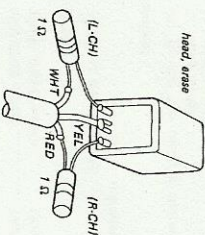

Fig. 12-24 Erasing current check setup
- (1) Thread a blank tape.
- (2) Deliver a 1KHz signal of +10 dB (2.5V) into the AUX Input jack and record the signal on the blank tape.
- (3) Rewind the tape and erase a part of the recorded tape (record mode with no signal input).
- (4) Memorize the VTVM reading on the recorded part and the erased part of the tape.
- (5) Be sure that the ratio of the recorded part to the erased part in level is more than 65 dB.
- If not, check the tape pass adjustment and that the erasing current is 80 ~ 120 mA. To measure the erasing current, connect the two 1Ω resistors in series to the erase head as shown in Fig. 12-24 and the VTVM across the 1Ω resistor.